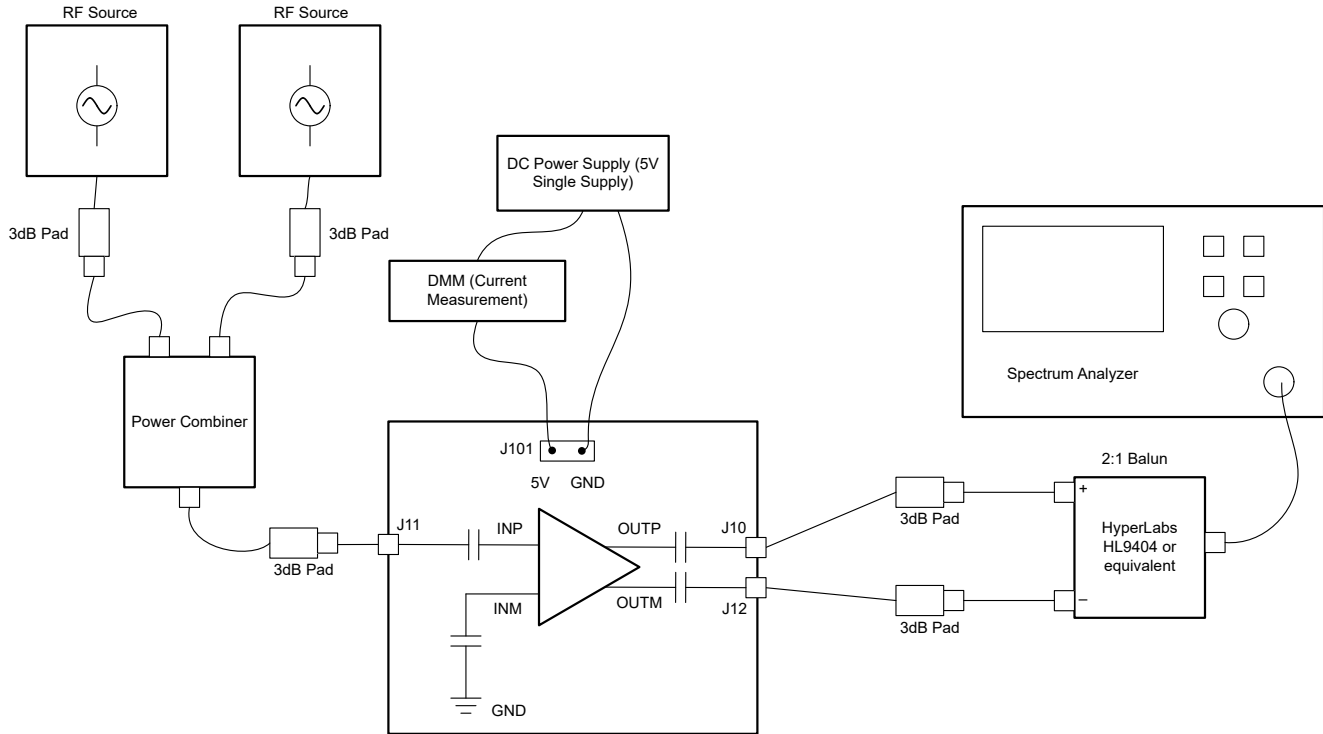

Figure 2-5. OIP3 Test Setup
1. Figure 2-5 shows the combination of two signal generator outputs using an in-phase power splitter and combiner. Use a 3dB to 6dB attenuator at the signal-generator outputs to prevent the generators from communicating, resulting in signal-generator IMD3 spurs.